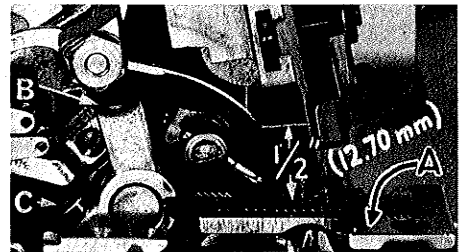

Fig. 4
With throat plate assembled in position, needle should center in the front end of needle slot. When needle is at high position, needle point should be set  $\frac{1}{2}$  inch (12.70 mm) above throat plate (A, Fig. 4) for Styles 39500 QS, QT, RT, TM & TT;  $\frac{15}{32}$  inch (11.91 mm) for Styles 39500 RD, RL and TJ. For Style 39500 TK the setting should be  $\frac{31}{64}$  inch (12.30 mm). To align needle or set the height above the throat plate, move needle driving arm (B, Fig. 4) by loosening clamp screw (C). After needle has been set properly, tighten clamp screw and remove throat plate.